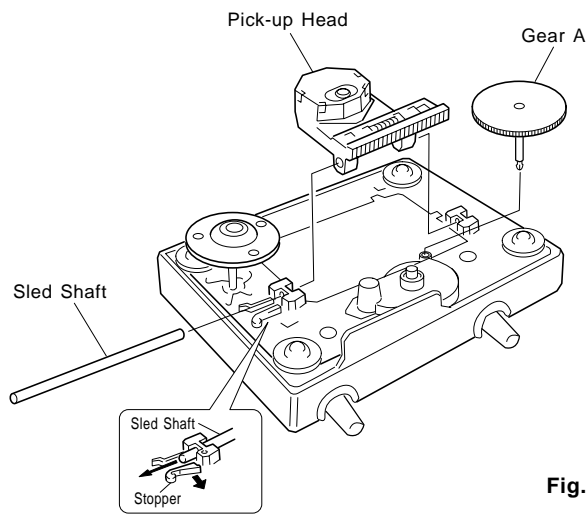

Fig. 12
- Remove the Gear A in Fig. 12.
- Pull out the Sled Shaft and remove the Pick-up Head in Fig. 12.